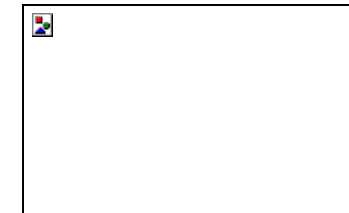

Fig. 48 Disconnecting patient cable and sensor.
1. Place thumb and index finger on grey buttons on either side of the patient cable (Fig. 48).